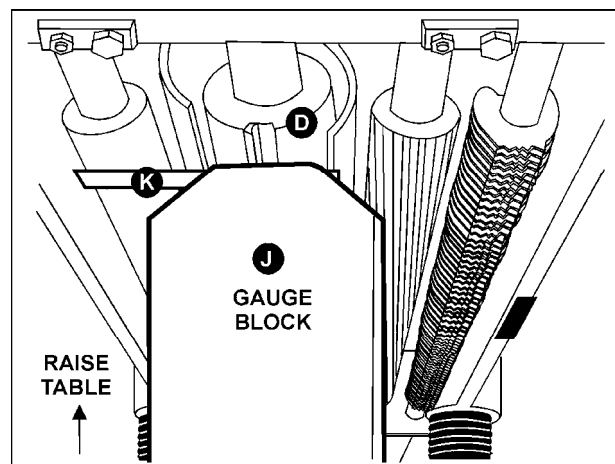

Fig. 26
3. Place the gauge block (J, Fig. 26) on the table directly underneath the cutterhead (D, Fig. 26). Using a 0.02" (0.5mm) feeler gauge (K, Fig. 26) placed on top of the gauge block, raise the working table until the knife just touches the feeler gauge when the knife is at its lowest point. Do not move the working table any further until the outfeed roller is adjusted.